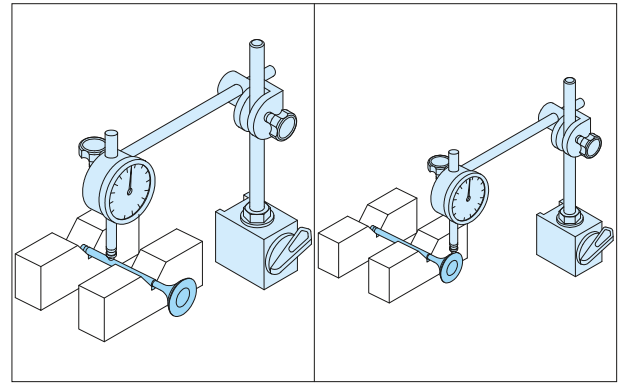

Fig. 3.118
- Using the special tools, measure the runout on valve stem and valve face. Replace the valve with new one if runout exceeds the service limit.(Fig. 3.118)